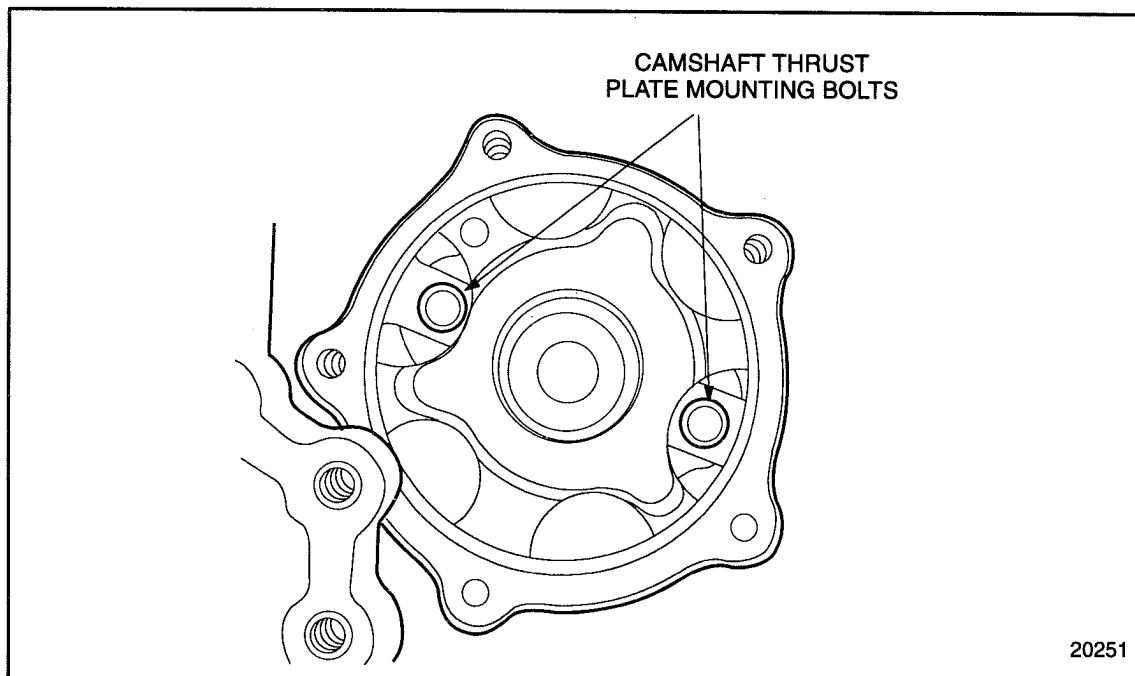

FIGURE 1-298 Camshaft Thrust Plate Retaining Bolts
3. Working through the access holes in the camshaft drive gear, remove the two bolts that retain the camshaft thrust plate to the cylinder head and Number 1 camshaft bearing cap. See Figure 1-298.